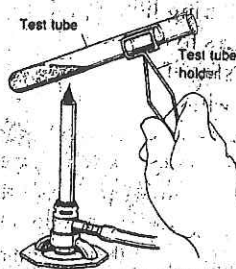

Figure 3. Heating a liquid in a test tube.
- Hold the test tube in a slanting position in the flame, and gently heat the tube a short distance below the surface of the liquid. (See figure 3)